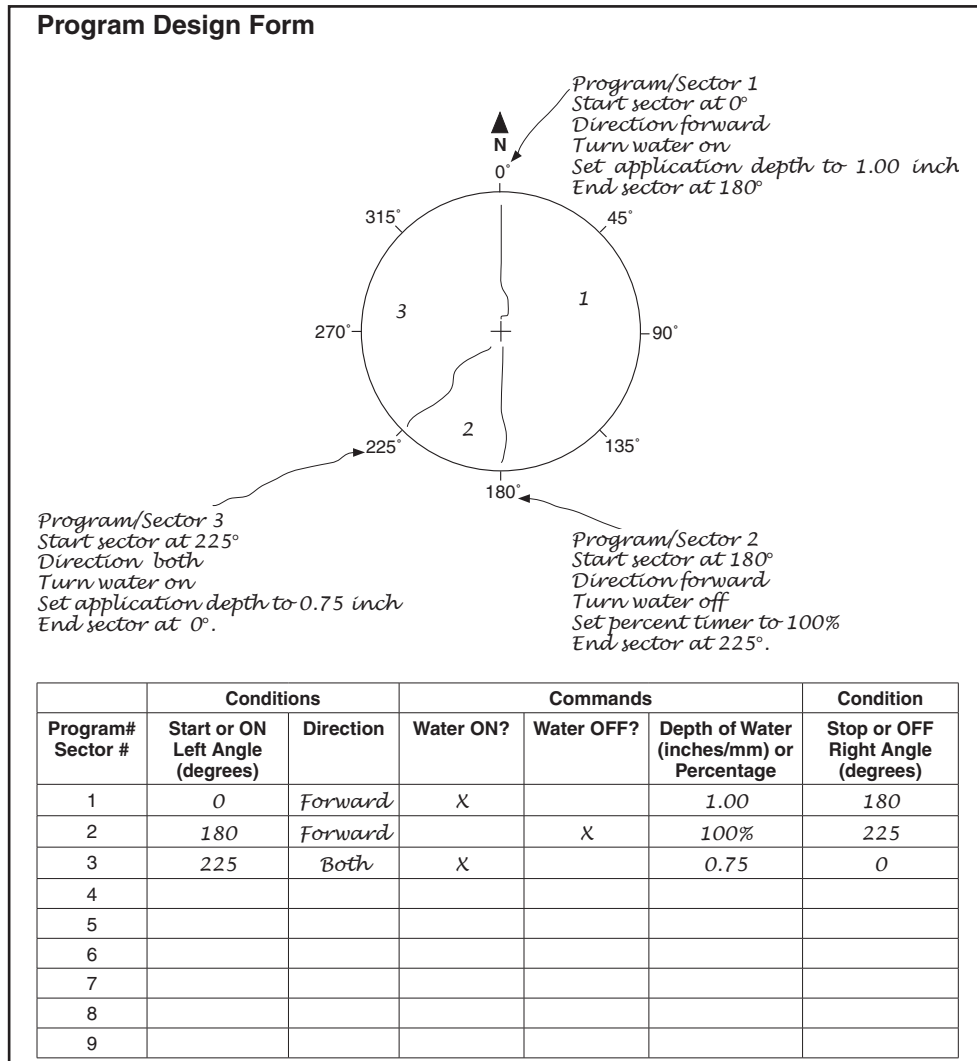

Figure 53-1
3. Enter information into the program design form table to make entering the program(s) in the control panel easier. The example below illustrates how to use the program design form to outline a program. See figure 53-1